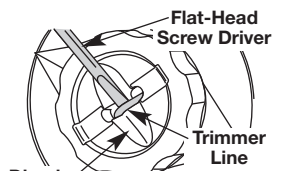

Fig. 29
2. Using a flat-head screwdriver, insert the tip into the line dimple and just under the exposed portion of the line (Fig. 29)